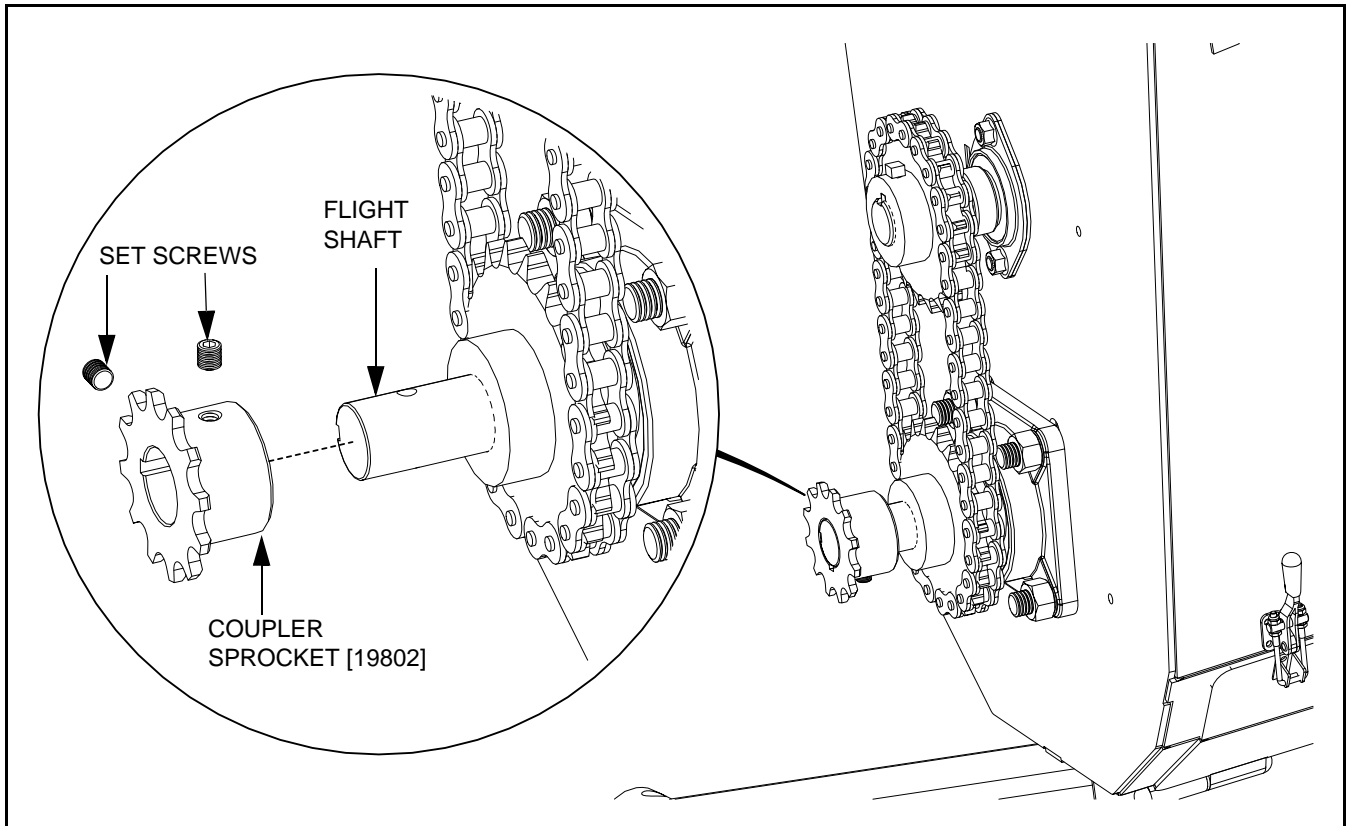

Figure 3 Installing Coupler Sprocket on Flight Shaft
2. Slide the unconnected coupler sprocket onto end of flight shaft. Place outside face of sprocket flush with end of shaft, then tighten set screws as shown in Figure 3.